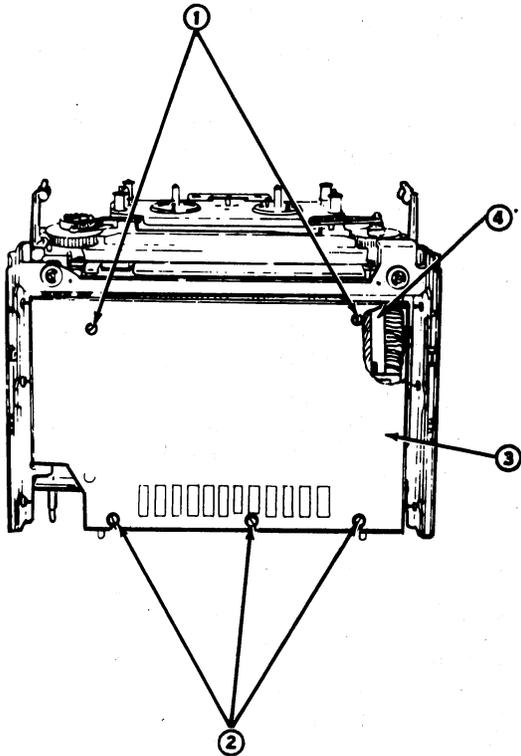

Fig. 38
4.05 Tractor Feed Printer — 80-Column (Fig. 38)
- ① Remove two screws.
- ② Loosen three screws.
- ③ Slide plate out.
- ④ Remove connector from 410640 or 410076 card, and using pull points, pull card down and out.
- ① Remove cover plate from bottom of printer (Fig. 38).
- ② Disconnect P109 ribbon connector from card.
- ③ Rotate card 90 degrees away from printer in direction opposite from ribbon connector.
- ④ Disconnect P103 and P106 connectors from card and remove card.